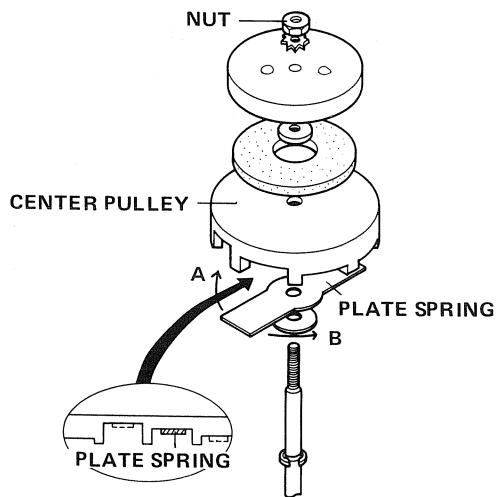

Fig. 14
3. To adjust, first disassemble idler pulley. Refer to Fig. 14.